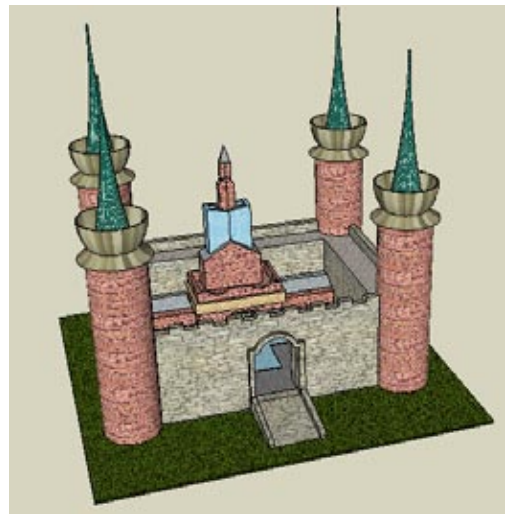

Figure 11-57
1. Download my Castle model from the 3D Warehouse (Figure 11-57).